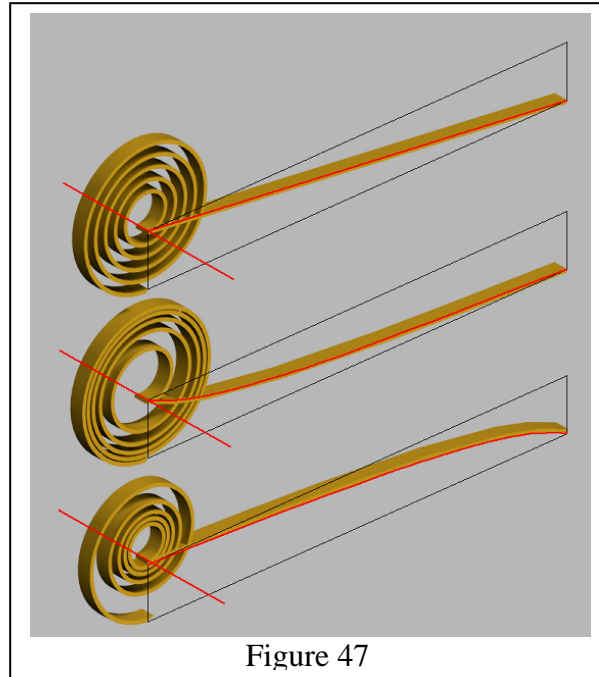

Figure 47
E.5.2.2. Nonuniform radial pitch. Spiral springs with nonuniform radial pitch are made with preforms that are curved in the Front view. Examples are shown in Figure 47.